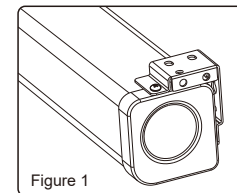

Figure 1
2. There are two ways for wall brackets to fix on the housing. As you can see on the Figure 1, which is our normal fixed way (namely factory set). While the other fixed way is to interchange the left and right wall brackets, and then fix onto the housing (namely functional installation way, as Figure 2).
Using a tape measure, measure the distance between the two keyholes on the casing (Figure 1). According to the measurement, use the drill to drill identical holes of the appropriate size on the wall (use a smaller drill bit than the actual screws) and ensure that it is level (Figure 2 - 3). Screw in the appropriate screws, either 5 x 40mm by itself for wood walls or with anchors for drywalls, leaving enough space at the end to hang the casing (Figure 4). To ensure that the screen is level, use a level to check (Figure 5).
Using a tape measure find out the distance between the two keyholes on the casing (Figure 1 ). According to the measurement, use the drill to drill identical holes of the appropriate size on the ceiling and ensure that it is level ( Figure 2 - 3 ). Screw in the hook screws ( not provided ) , and lift the screen into the hook screws to hang ( Figure 4 ). To ensure that the screen is level, use a level to check ( Figure 5 ).
Using a tape measure find out the distance between the two keyholes on the casing ( Figure 1 ). According to the measurement, use the drill to drill identical holes of the appropriate size on the ceiling and ensure that it is level ( Figure 2 - 3 ). Screw in the hook screws ( not provided ) , and lift the screen into the hook screws to hang ( Figure 4 ). To ensure that the screen is level, use a level to check ( Figure 5 ).
Using a tape measure, measure the distance between the two keyholes on the casing ( Figure 1 ). According to the measurement, use the drill to drill identical holes of the appropriate size on the wall ( use a smaller drill bit than the actual screws ) and ensure that it is level ( Figure 2 - 3 ). Screw in the appropriate screws, either 5 x 40mm by itself for wood walls or with anchors for drywalls , leaving enough space at the end to hang the casing ( Figure 4 ). To ensure that the screen is level, use a level to check ( Figure 5 ).